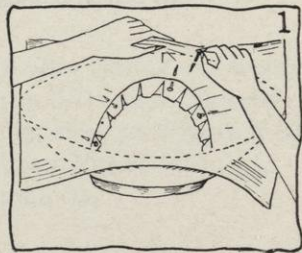

FIG. 1.
- a. Pin slashes to headsize of brim (see Figure 1).
- b. Draw material out from headsize and toward edgewire, working out the fullness in this way, and pin at edgewire (see Figure 1).